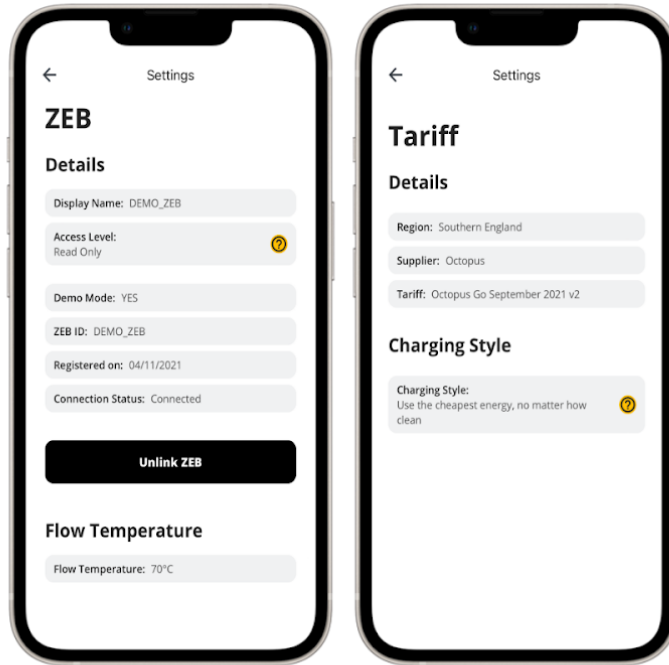

Figure 11: User App Account Settings
- Use the Account page in the menu to change any operational settings of the ZEB® (**Figure 11** - refer to user guide for full details) including